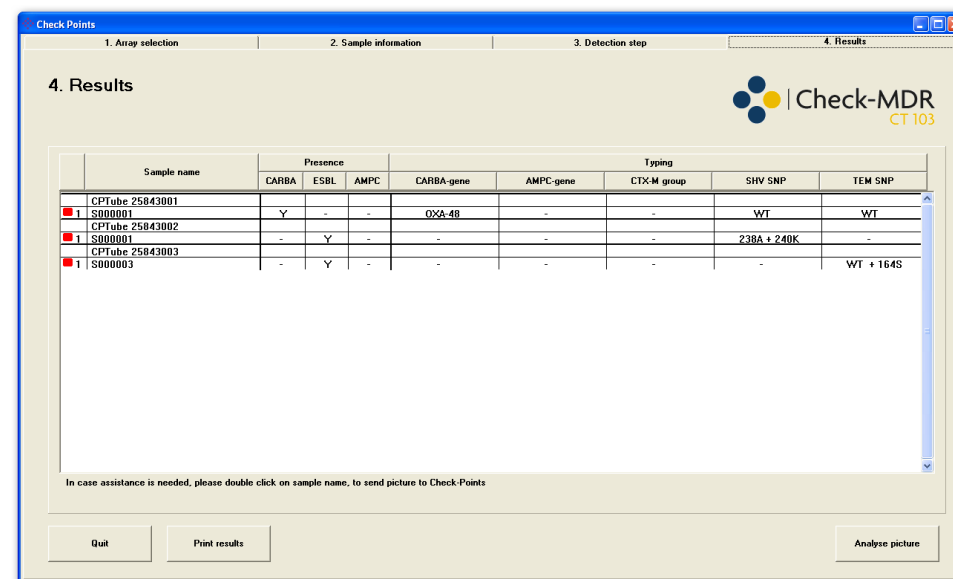

Figure 7: Summary of the results.
18. When all ATs have been analyzed, a new window with the summary of the results will appear (see figure 7), which may also be printed (click on the “Print results” button). The results summary will display the sample ID and the presence/absence of carbapenemases, plasmidic AmpC and ESBL as well as combinations thereof (see table 2 for a list of the genes that can be reported). Please note that for the CTX-M-1 group, additional information regarding the subgroup will be displayed (see Appendix 1). Click on the “Quit” button to end this run of analyses.